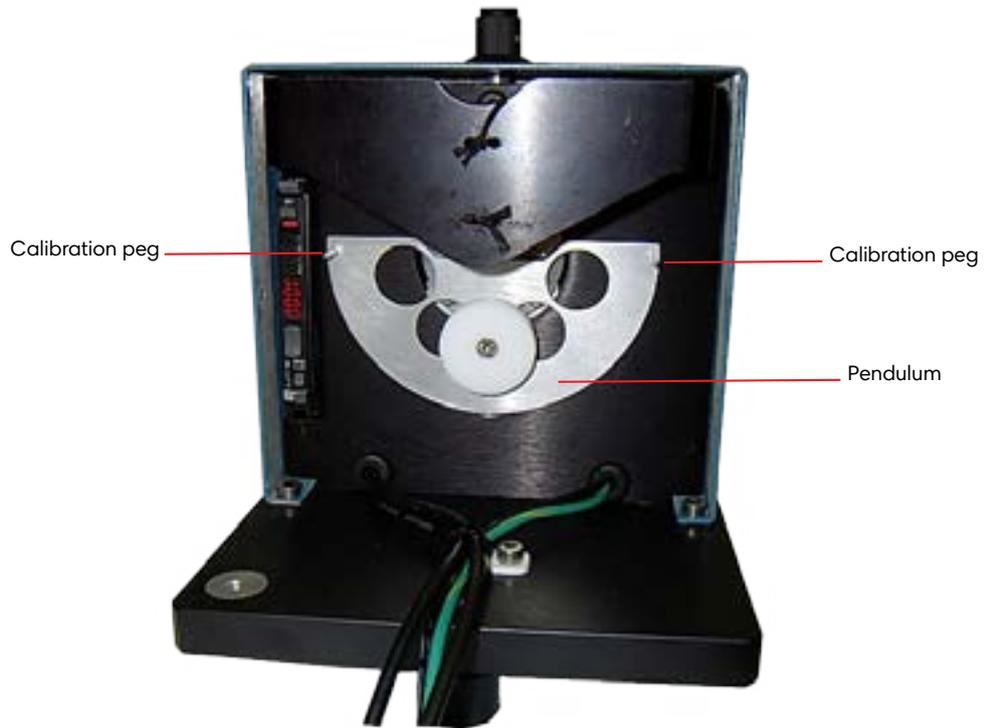

Fig.6-3 Dynamometer Calibration
- The next prompt asks the user to hang the calibration weight, starting with the right side. Carefully hang the appropriate calibration weight from the calibration peg, as show in Figure 6-3. Tweezers have been included in the accessory tool bag for your convenience.